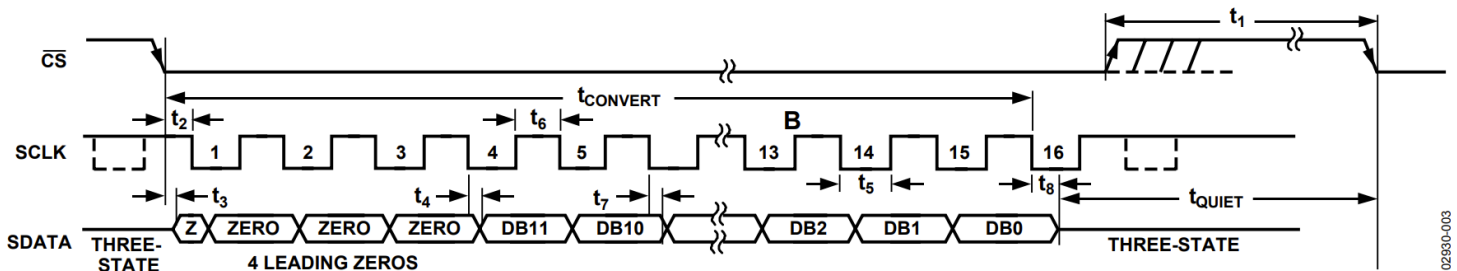

Figure 1: Serial Interface Timing Diagram
- 1) In this part, we will explain the RTL structure and state machine that we have designed in order to communicate with the ADCs on the PmodAD1 using SPI communication. In order to do so, we need to reference our design on the Serial Interface Timing Diagram given in the AD7476A's datasheet as shown in Figure 1.
From the timing diagram in Figure 1, we can see that the CS is an active Low signal, so it is initially deasserted (set to 1) and then gets asserted (set to 0) to signal the start of conversion. It should stay asserted until the end of transmission.
From the timing diagram in Figure 1, we can see that SCLK is initially set to 1, and then starts clocking after a minimum duration of $t_2 = 10$ ns of when CS is asserted. After 16 rising edges, CS will be deasserted and SCLK will be set back to 1, signalling the end of
From the timing diagram in Figure 1, we can see that the conversion result from AD7476A is provided on this output as a serial data stream. The first zero is clocked out on the falling edge of CS and the rest of the bits are clocked out on the falling edge of the SCLK input. The data stream from the AD7476A consists of four leading zeros followed by 12 bits of conversion data that are provided MSB first.
We can see in Figure 1 that we have to count 15 Sclk rising edges in order for the data to be transmitted, and an additional rising edge to signal the end of transmission to reinitialize the system. Therefore, we add a comparator that compares the value of the counter to the value "16", above which the signal "end_data" will be set to 1, reinitializing the system and the data counter back to 0.
In the state "init_sclk", "cs" will be set to 0, signaling the beginning of the transmission, "ready" will be set to 0 meaning that the system is not currently ready for a new transmission and the sclk should start clocking. Before starting to toggle sclk, we should introduce a minimum delay "t2" as shown in Figure 1. In order to do so, we start incrementing the temporization counter, and when half a period of sclk (which is > t2) has passed, "end_tempo" will be set to 1 which will allow us to move to the next state "data".
In the state "end_sclk", we wait for a duration of half a period of "sclk" to respect the delay that we can see in the serial interface timing diagram in Figure 1 right after the 16th "sclk" rising edge, and then we move to the next state "cs_delay".